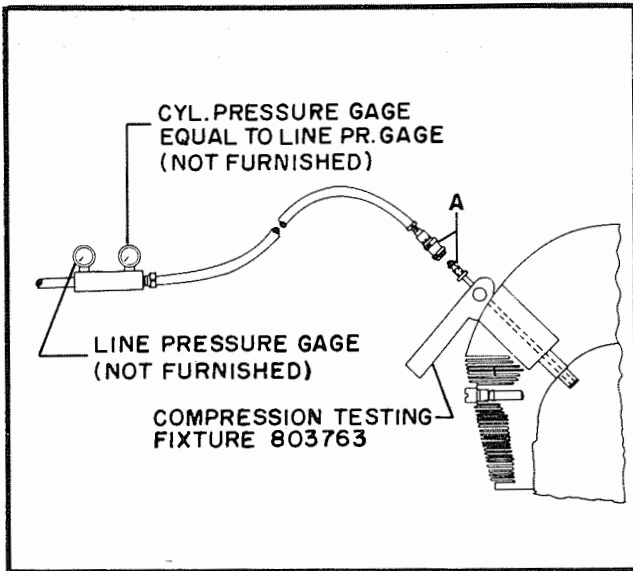

Figure 6-2. Cylinder Compression Test Equipment
6-48. CYLINDER COMPRESSION CHECK. Refer to figure 6-2. If a cylinder compression check is necessary, proceed as follows:
c. Install the expansion plug of the fixture in cylinder No. 1 front sparkplug port. Attach the gage and hose assembly to the plug at point A, figure 6-2.